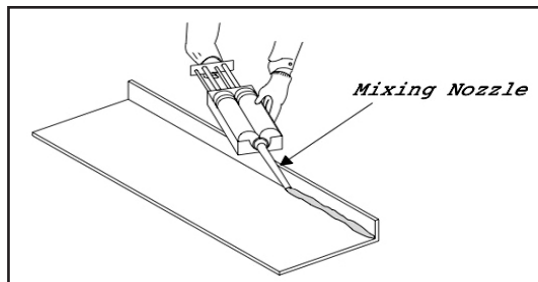

Fig. 2
- Apply a 6-7mm thick bead (the thickness of a pencil) of TOLI 800 Nose Caulking to the inside nose fold. See Fig. 2.
- Follow the procedures as outlined on page 2. See Fig. 2.